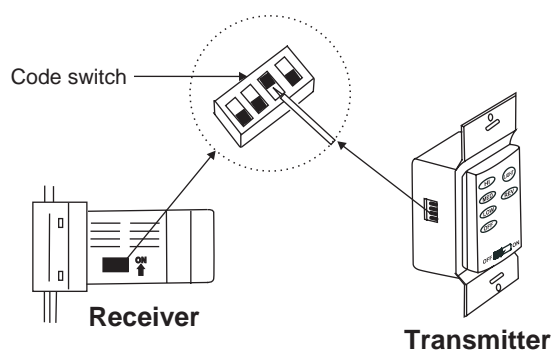

Figure 10
**NOTE:** This remote control unit is equipped with 16 code combinations to prevent possible interference from or to other remote units. The frequency switches on your receiver and wall transmitter have been preset at the factory. Please recheck to make sure the switches on transmitter and receiver are set to the same position, any combination of settings will operate the fan as long as the transmitter and receiver are set to the same position.(Fig. 10)